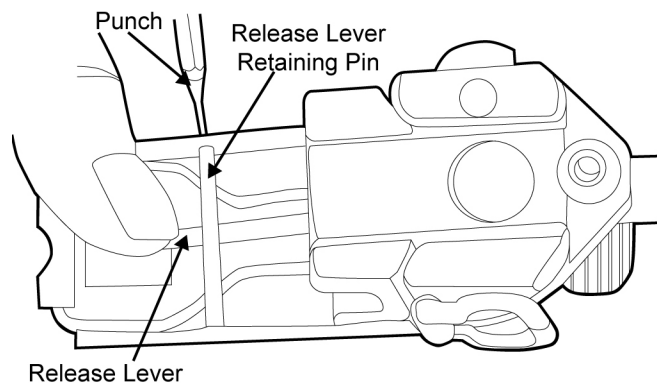

Figure 54. Installing the Release Lever Retaining Pin.
- d. With a finger depressing the release lever to relieve spring tension, insert the release lever retaining pin through the hole in the side of the mounting plate, ensuring that it is over the release lever spring and flush on both sides of the mounting plate. It may be necessary to use a punch to seat the release lever retaining pin. Refer to Figure 54.